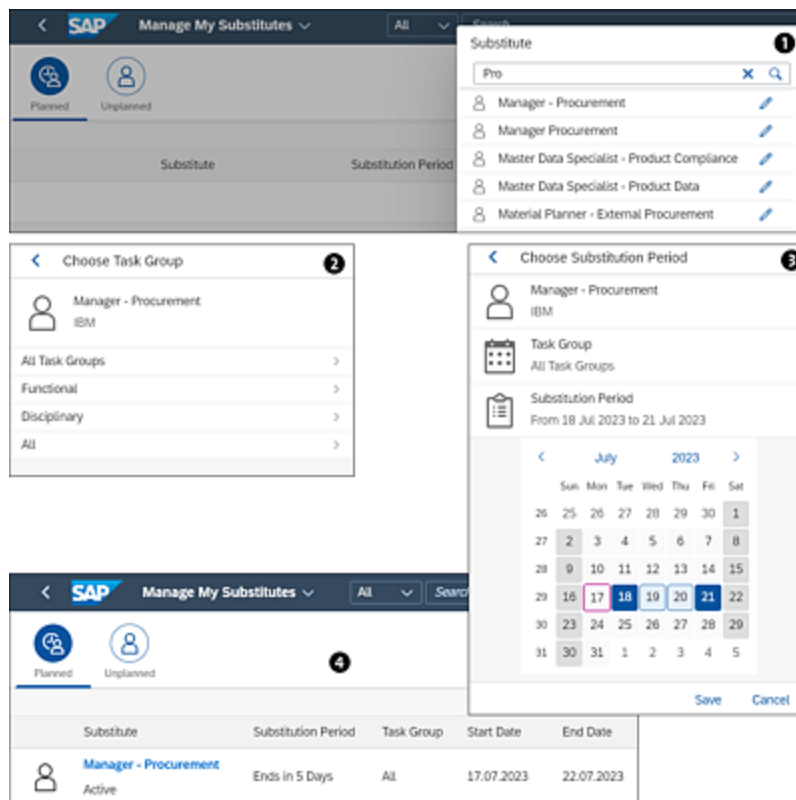

Figure 8.25 Add Planned Substitution
4. Select the **Substitute** user ID from the popup window in Figure 8.25 ❶, and it will open another dialog to select
5. The selected user ID will be added as a planned substitution, which is shown in Figure 8.25 **4**.